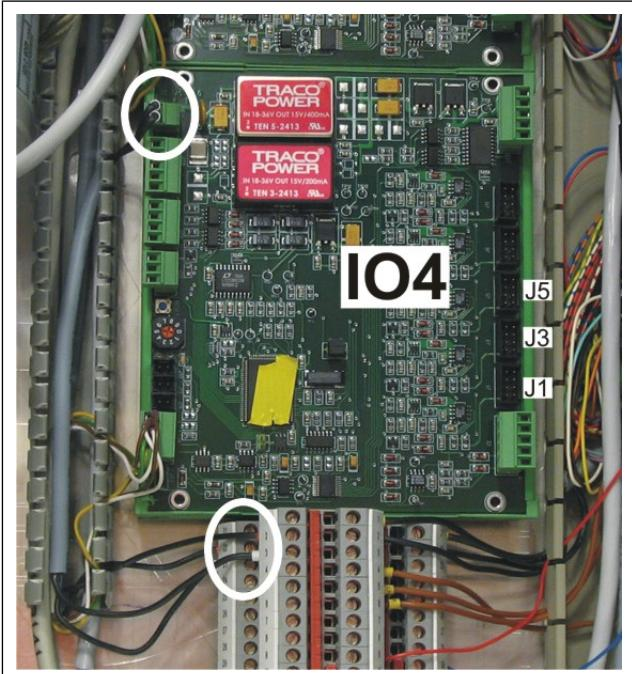

Fig. 7. Connection of board power and detectors.
5. Connect the detector cables to board IO4 as follows (Fig. 7):